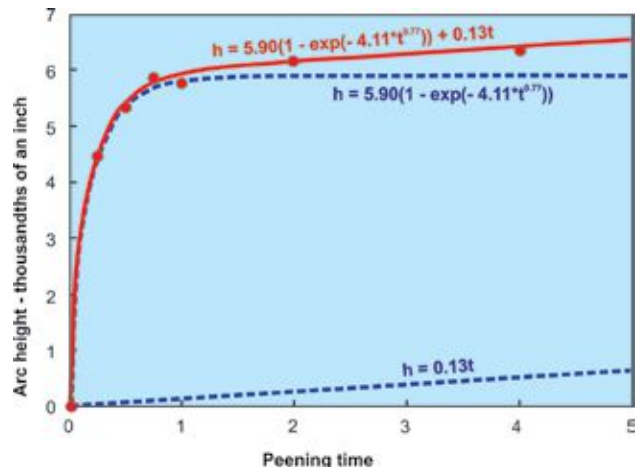

Fig.10 Four-parameter shape of curve indicated by SAE Data Set No.10.
Indicated Peening Intensity Curve: Intermittent measurements are used to indicate a corresponding peening intensity curve. Equation (2) shows that the 'true shape' of a peening intensity curve should be a four-parameter equation with a one-parameter linear component superimposed on a three-parameter exponential equation. This is illustrated in fig.10 where the four-parameter equation has been 'best-fitted' to the six-point SAE Data Set 10. It is worth noting that the 'extra' data point 0,0 should always be added to any data set.